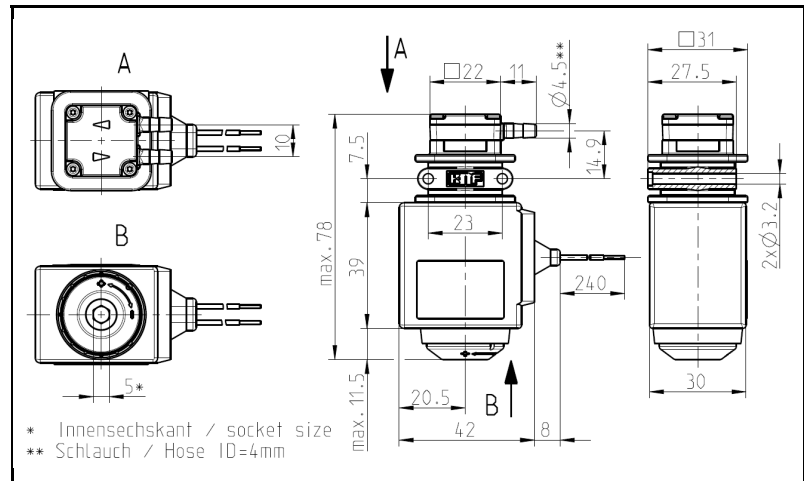

Fig. 3: Mounting dimensions FMM 20
- Mounting dimensions (see Fig. 3)